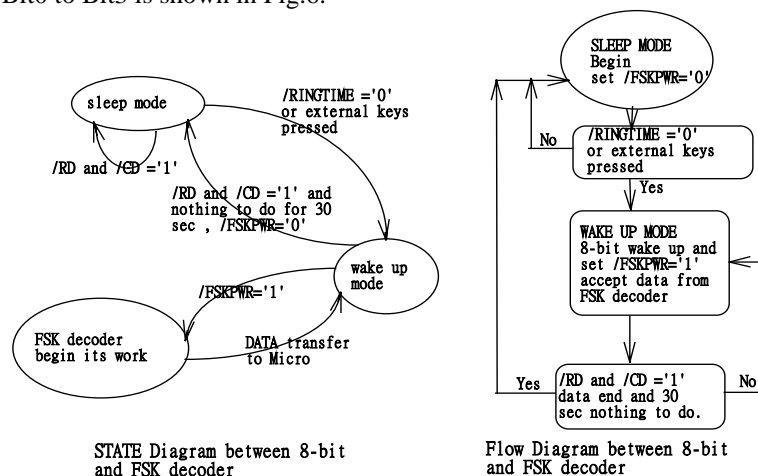

Fig.6 The relation between Bit0 to Bit3.
- * The relation between Bit0 to Bit3 is shown in Fig.6.